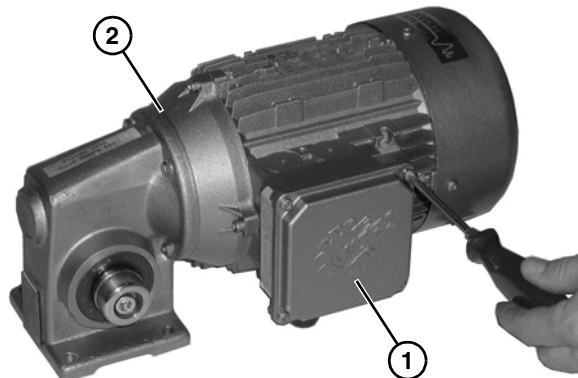

Figure 21
1. Loosen the screws and remove the cover (Figure 21, item 1) from the junction box located on the side of the motor (Figure 21, item 2).